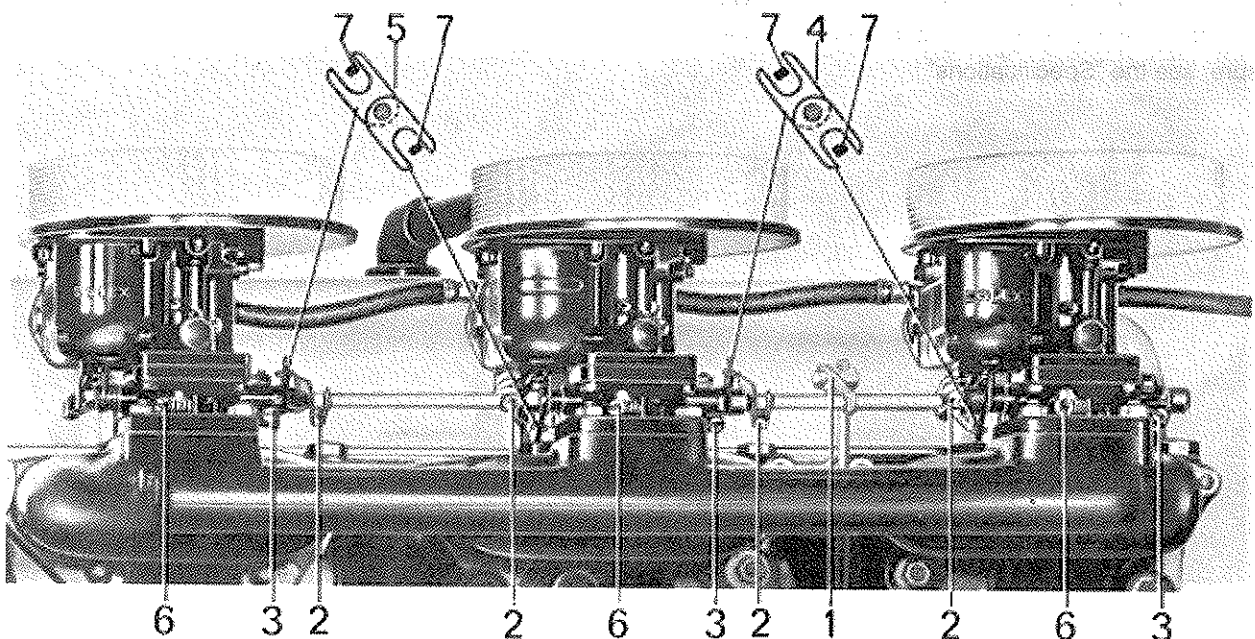

Fig. F10. 3 synchronized Solex carburetors (AQ170A,B,C)
1. AQ130C: Release the clamp nut for one of the levers (2) Fig. F10.